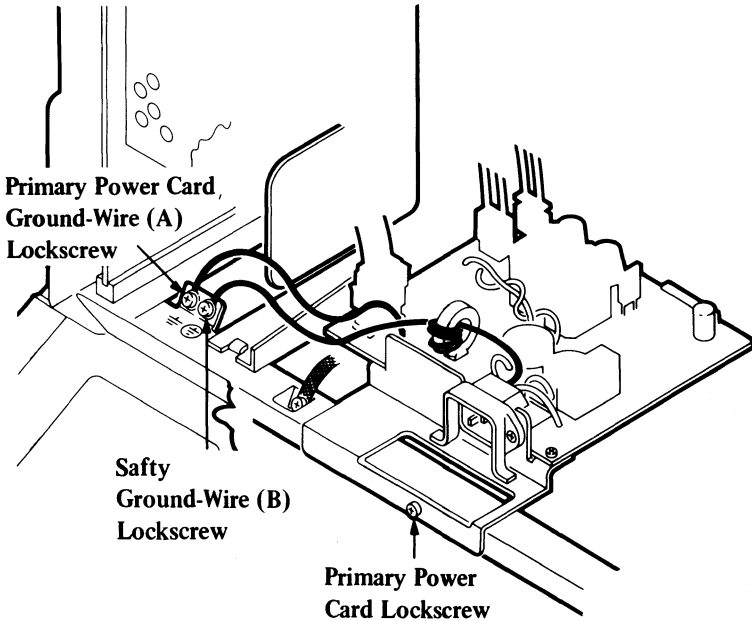

Figure 5-19. Primary-Power-Card Lockscrew and Ground-Wire Lockscrews
7. Remove the primary-power-card lockscrew, see Figure 5-19.
8. Remove the primary-power-card ground wire (A) by turning the ground-wire lockscrew counterclockwise to free the locknut.